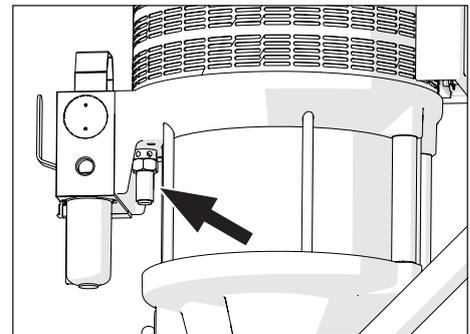

Fig. 2: Safety valve
- In the air motor of the proportioning pump (see Fig. 2)